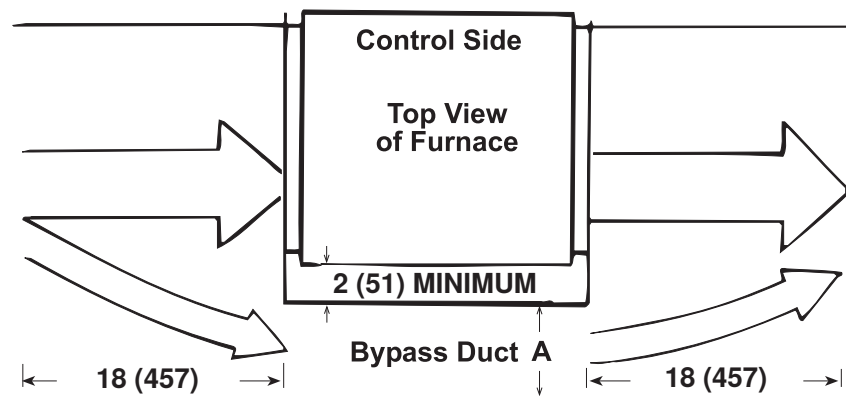

Figure 14. Bypass Duct Dimensions
When the air throughput CFM is greater than desirable or permissible for the unit, a bypass duct (see Figure 14) may be constructed. Locate the bypass duct on the side of the furnace opposite the controls and 2 inches from the heat exchanger side panel. Extend the bypass duct 18 inches (457 mm) beyond the furnace on both the inlet and outlet ends. Determine the correct size of the bypass duct as follows:
*See Figure 14.